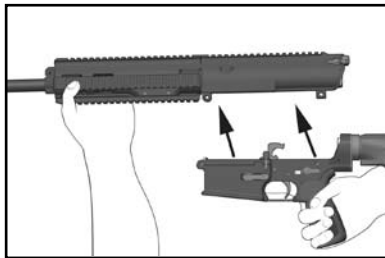
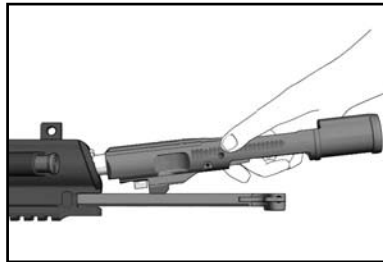

Fig. 37 – Removing the upper receiver
Fig. 38 – Removing Bolt & Charging Handle
- a. Remove the upper receiver from the lower receiver (Fig. 37), depress the catch on the charging handle and withdraw the bolt assembly from the rear (Fig. 38). Continue to pull the charging handle to the rear until resistance is encountered. Lift up on the charging handle and separate the charging handle from the upper receiver.